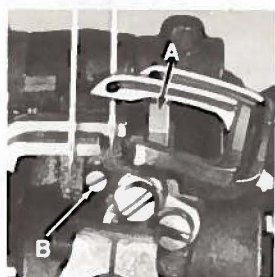

FIGURE 7
If feed dog teeth are not parallel with the throat plate, loosen nut (A, Fig. 7) and turn screw (B) clockwise to lower the front teeth, or counterclockwise to raise the front teeth. Retighten nut when feed dog is set properly.